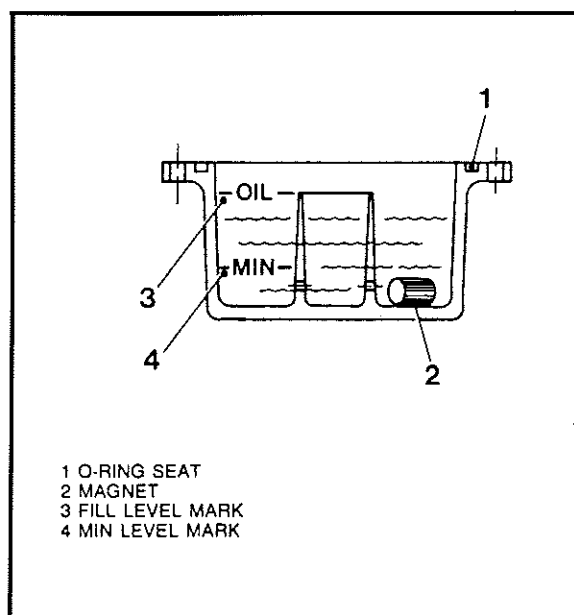

Figure 2-1 - Oil sump
- Insert the magnet in the outer annulus of the sump (fig. 2-1).